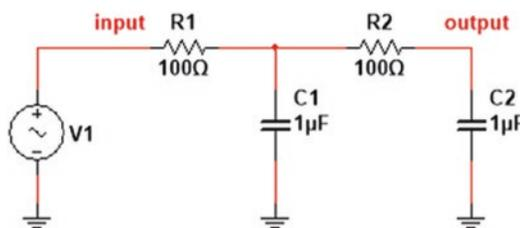

Fig. 2.348 Schematic for Exercise 7
7. (a) Use LTspice to draw the frequency response of the circuit shown in Fig. 2.348.